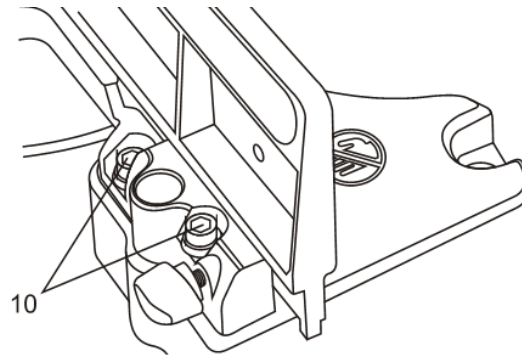

Fig. 9
6. Loosen the four fence adjustment screws (10) using the 6 mm hex key (provided) (Fig. 9).